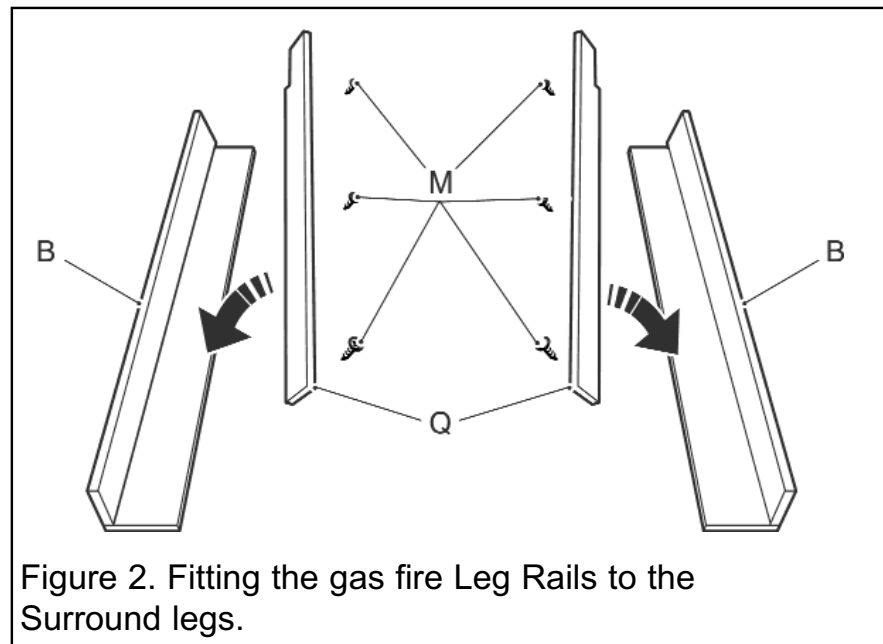

Figure 2. Fitting the gas fire Leg Rails to the Surround legs.
- Take the Gas fire Leg Rails (Q) and locate them to the Surround Legs (B) as in figure 2. Secure in place using screws (M).